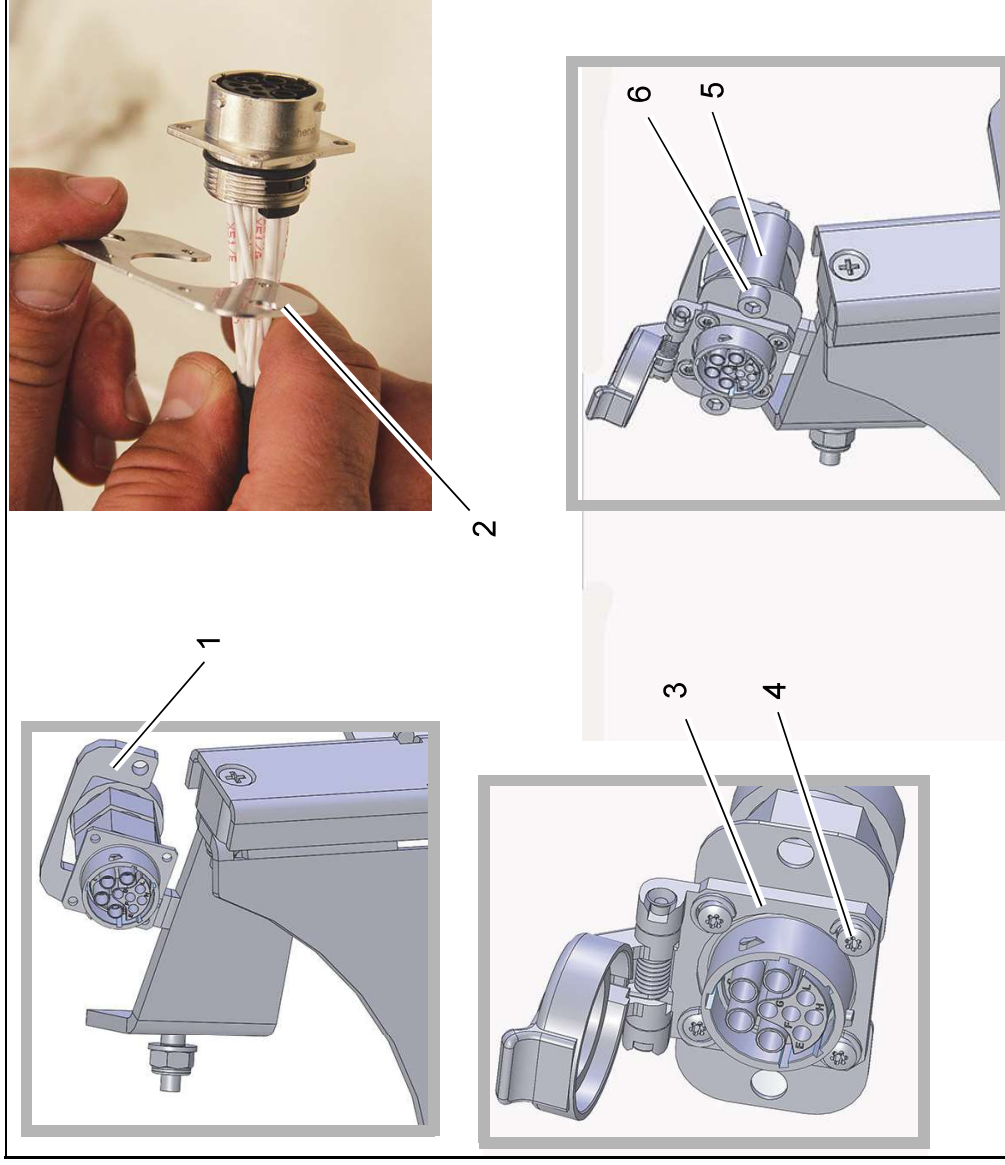

Fig. 7
1. Pass the bushing X51 of the cable loom W54 through the opening of the right-hand holder (Fig. 7/1).
2. Unscrew bushing from corrugated hose, and place adapter plate (Fig. 7/2) between them. Screw corrugated hose to bushing again.
3. Screw hinged cover (Fig. 7/3), bushing and adapter plate together with four self-tapping screws M3x8 (Fig. 7/4).
4. Screw pre-assembled part to the right-hand holder with the two bushings (Fig. 7/5) and the two self-tapping screws M6x40 (Fig. 7/6).